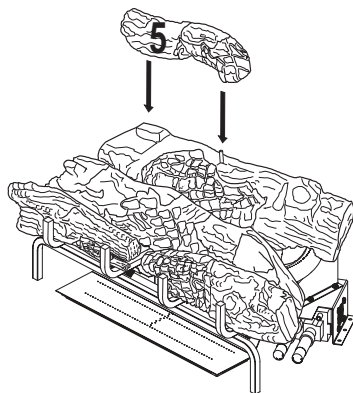

Figure 39 - Installing Log # 5
5. Place the left top back log (#5) on top of the rear log. Match the rectangular projection on top of the left side of the rear log with the rectangular hole on the bottom of the left top back log. Match the metal pin on the top of the rear log with the round hole in the bottom of the left top back log. See Figure 39.